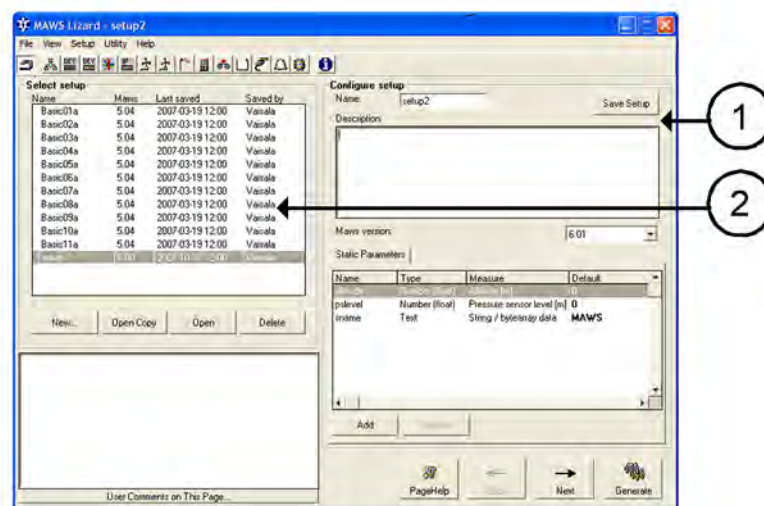

Figure 11 Setup View
1. Go to the **Setup** view as shown in Figure 11 on page 34.
The following numbers refer to Figure 11 on page 34:
3. The new setup then appears as the current setup in the **Configure Setup** frame. Enter a description for the setup into the **Description** box; refer to Figure 11 on page 34.